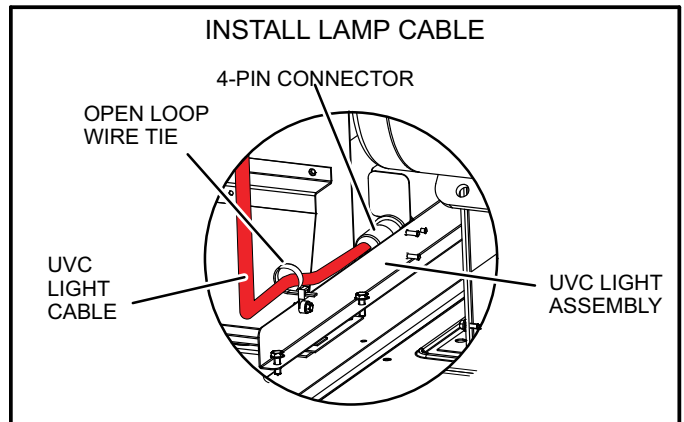

FIGURE 14
- 1- Run the UVC lamp cable through the open loop of wire tie attached to the UVC assembly (see figure 14).